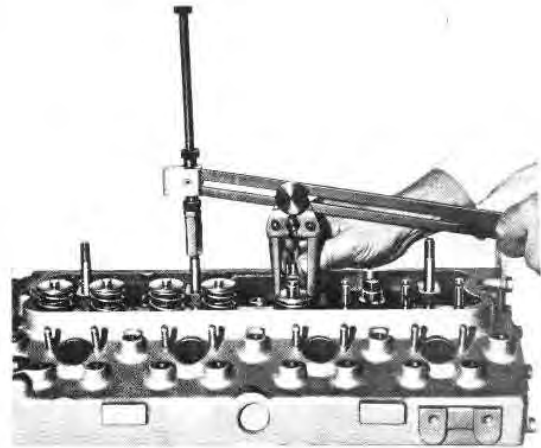

Fig. B14 — Removing Valve Collets.
1. Compress spring caps and springs with a suitable valve spring compressor (Fig. B14) and remove the two half conical collets from each valve.